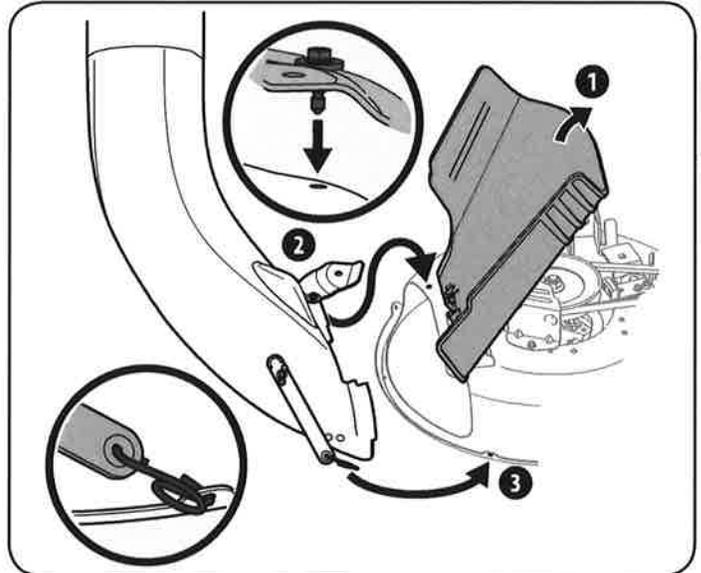

Figura 51
**Note:** On decks without deck wheels, hook the retainer strap into the hole provided in the flange on the front-side of the cutting deck. See Figura 51.